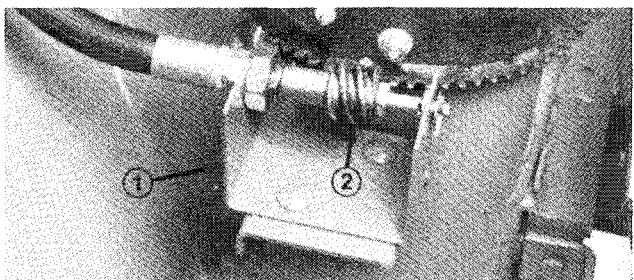

Figure 10
7. Check operation of chute crank and discharge chute. Readjust worm gear, if necessary, by loosening worm bracket mounting screws (Fig. 10), firmly pushing worm gear against teeth in retaining ring and retightening locknuts.